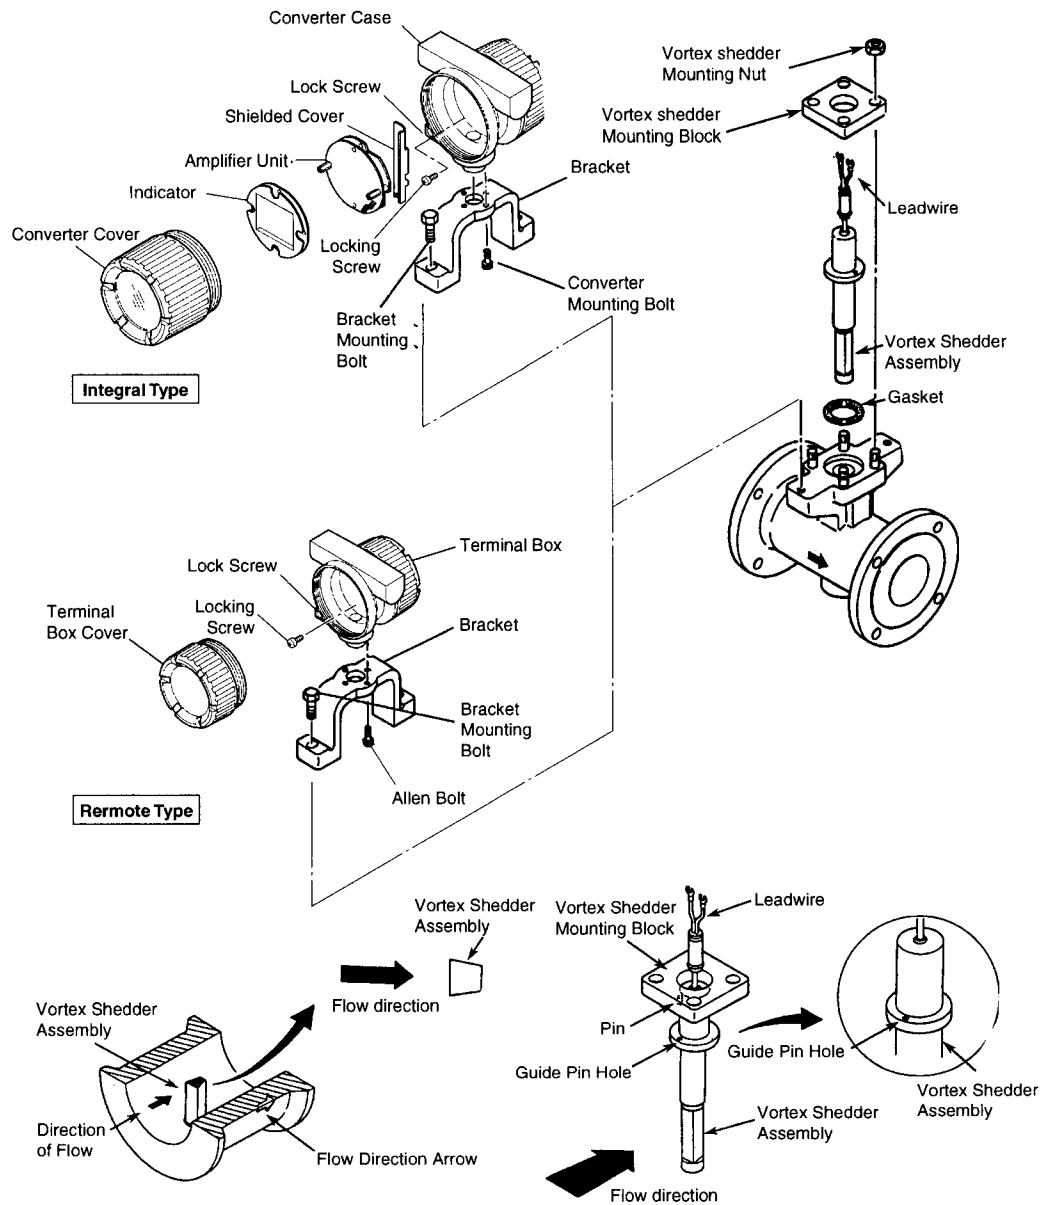

Figure 7.1 Disassembling and Reassembling the Vortex Shedder Assembly
- (1) Remove the converter cover.
- (2) For Integral Type, loosen the terminal screws and disconnect leadwires on the amplifier and loosen 4 screws to disassemble the Amplifier. And for Remote Type, remove the terminal box cover in the same way.
- (3) Loosen the bracket mounting bolts and remove the terminal box together with the bracket. Be careful not to damage the leadwires connected to the vortex shedder assembly when removing the terminal box.
- (4) Loosen the vortex shedder assembly mounting bolts or nuts and remove the vortex shedder assembly.
- (5) When reassembling the vortex shedder assembly, reverse above procedure. Confirm the following.
- b. The guide pin on the vortex shedder mounting block meets the guide pin hole. See Figure 7.1. The guide pin applies to the 1 to 4 inch flowmeters.
- c. The vortex shedder assembly is installed as illustrated in Figure 7.1.